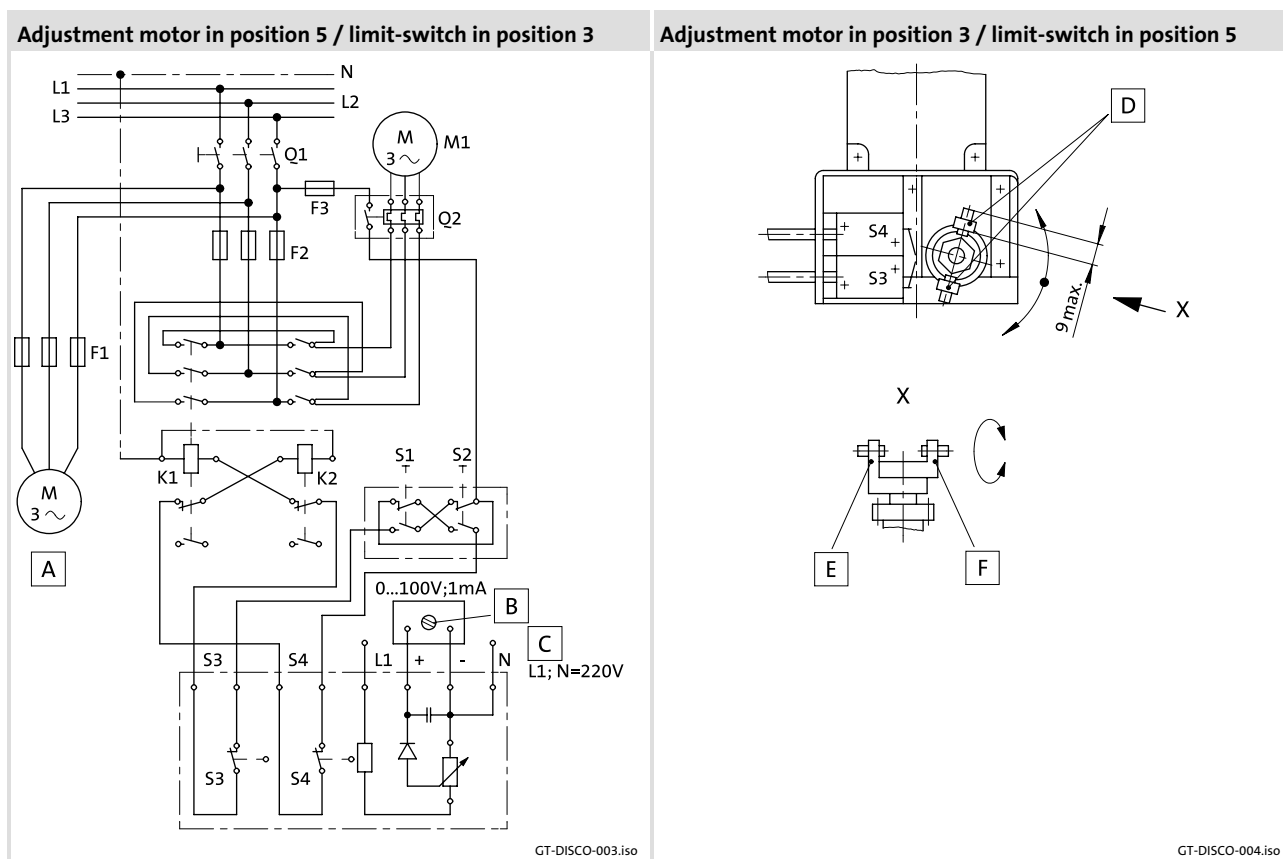

Fig. 2 Circuit plan of the servo adjustment mechanism with potentiometer indicator
1. Connect the electrical adjustment device as shown in the circuit diagram (Fig. 2). Ensure the right polarity of the adjustment motor!